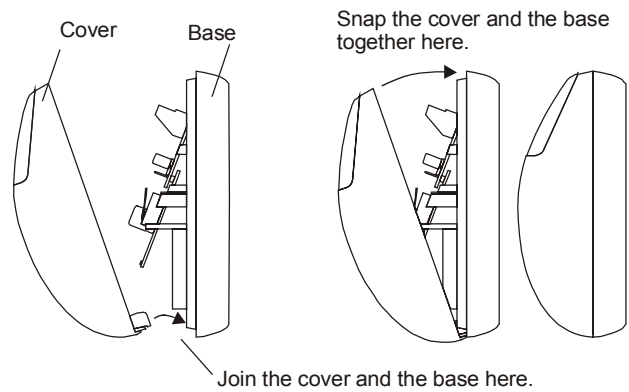

Figure 16: Snapping the cover onto the base
- 2 Join the cover and the base at bottom as shown below (Figure 16).